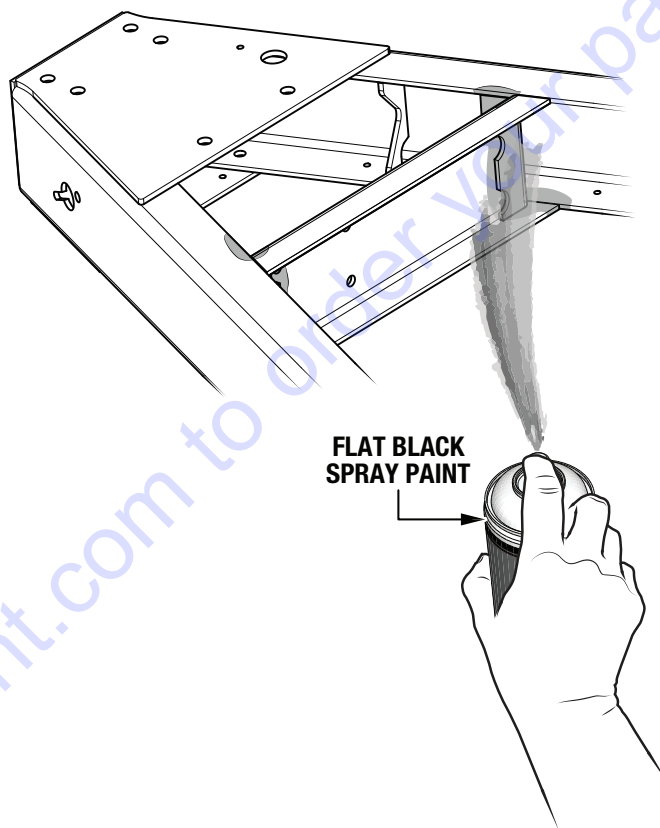

Figure 7. Paint Welding Areas
1. Clean all welded areas on the trailer frame with a wire brush, then paint the welding areas with **flat black spray paint** (Figure 7).